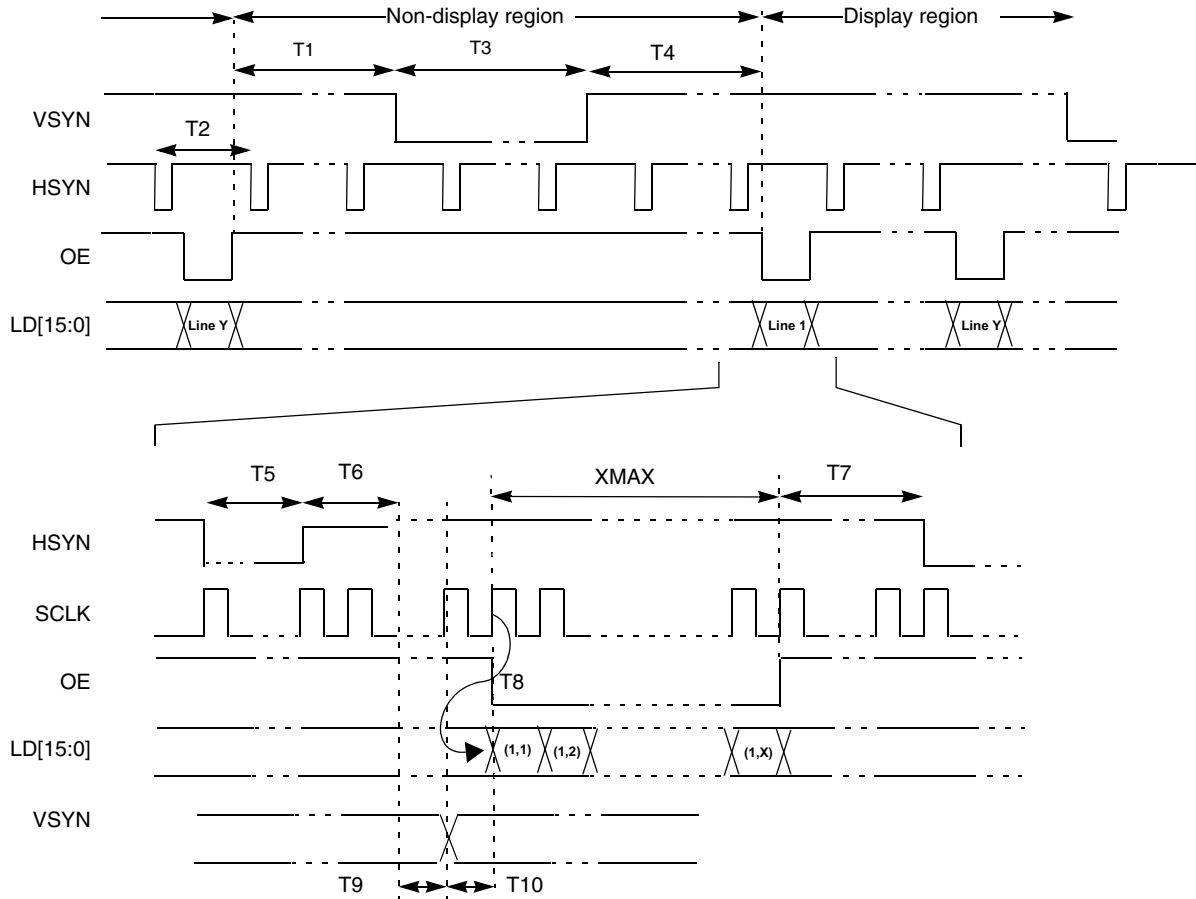

Figure 37. 4/8/16 Bit/Pixel TFT Color Mode Panel Timing
- VSYN, HSYN and OE can be programmed as active high or active low. In Figure 37, all 3 signals are active low.
- SCLK can be programmed to be deactivated during the VSYN pulse or the OE deasserted period. In Figure 37, SCLK is always active.